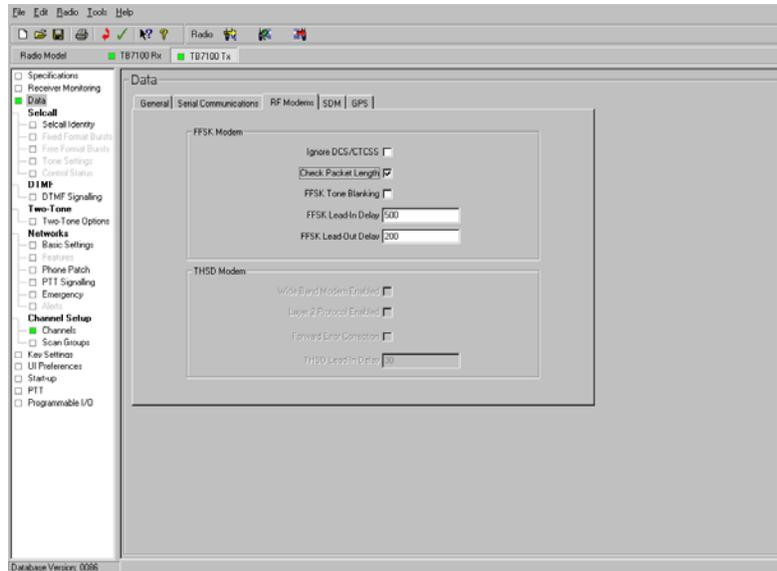

Figure 9
- Under Data>Serial Communications set the following parameters as in figure 9: